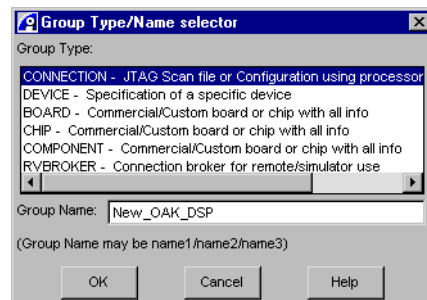

Figure 4-12 Specifying a CONNECTION group
4. This displays the Group Type/Name selector dialog, shown in Figure 4-12.